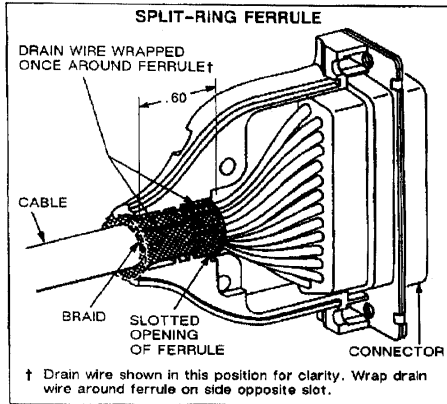

Fig. 6
5. SPLIT RING FERRULE ASSEMBLY (Figure 6)
2. Strip cable jacket from end of conductors. Take care not to nick or cut braid. Refer to the chart in Figure 6 for the cable jacket strip length for HD-20 and HD-22 connectors.